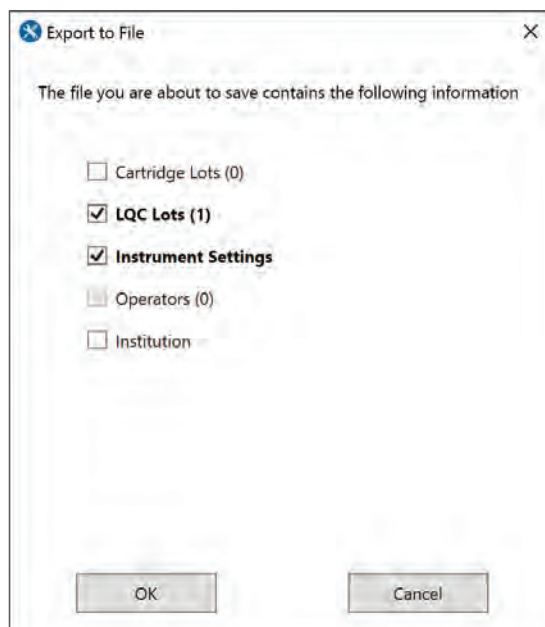

Figure 112: CCM – Export to File Dialog Box
- 2 The **Export to File** dialog box (*Figure 112*) is displayed with a check box next to each type of configuration data. If any of the items are in **bold**, the configuration data was changed in the session.